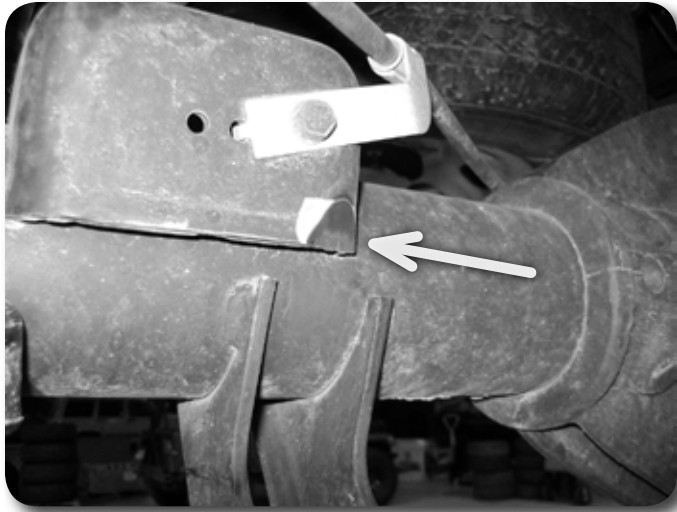

Figure 14
14. **INSTALLING NEW OPTIONAL ZONE SHOCKS ONLY:** The passenger's side bump stop bracket on the axle must be trimmed slightly to add clearance for the new larger rear shocks. Grind the inside front corner to gain approximately 1/4" of clearance. **Figure 14** Paint bare metal to prevent rust.